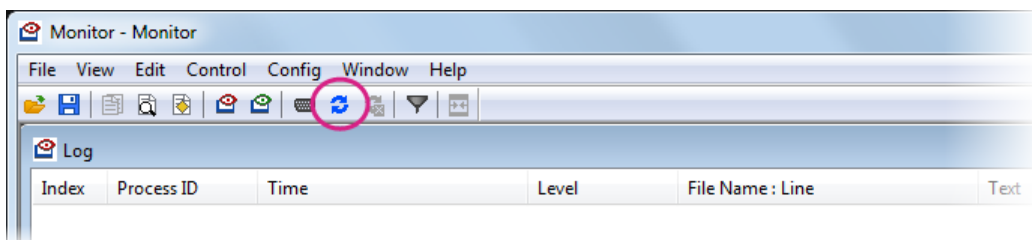

Figure 34 Connecting the COM port
- 3) After selecting the **COM** port, click the Connect toolbutton to establish a connection with the development board, as shown in Figure 34.